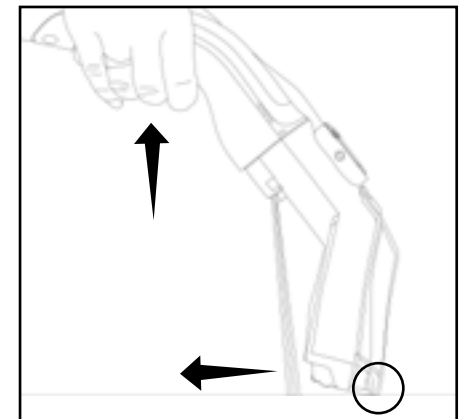

Fig. 3
3. Press the cleaning tool onto the floor, whilst pressing the lever to release solution, pull back slowly to vacuum up the solution (Fig 3)